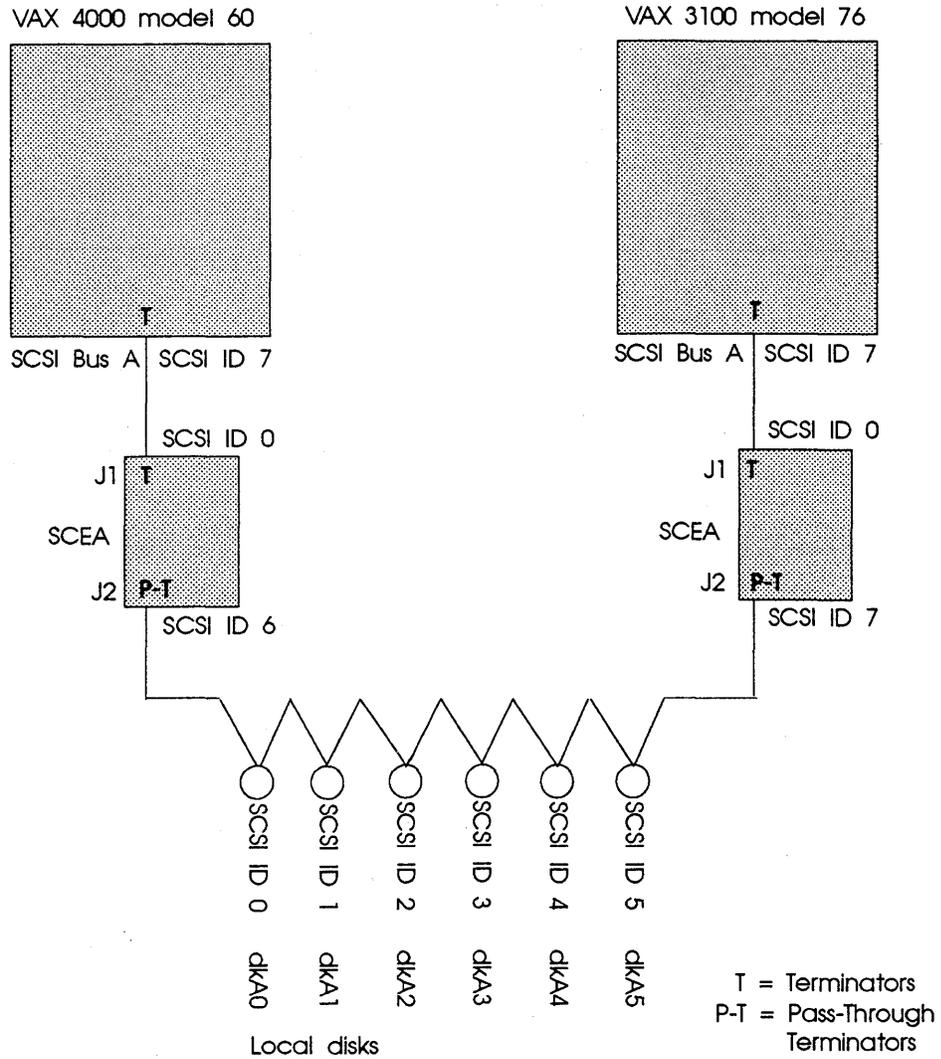

Figure 4-30: Example of Multi-Hosting
See Figure 4-30 as an example.
- 4 Terminate both *physical* ends of the SCSI bus. See Figure 4-30.